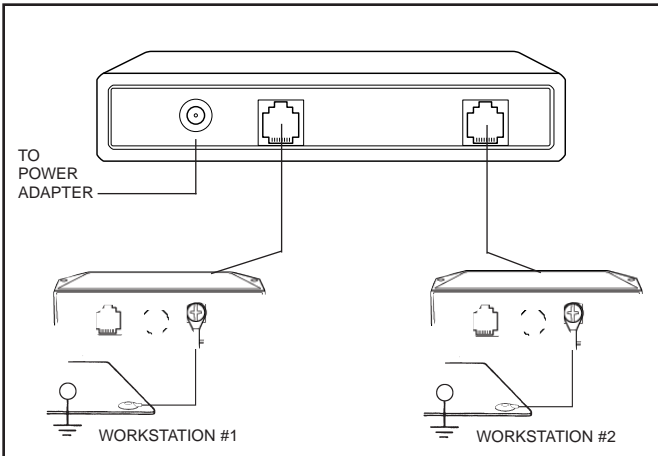

Figure 4. Wiring connection instructions for the 19230 monitor control unit.
Figure 4 shows the monitor control unit as it is viewed from the rear, with the work surface wiring in place.
1. Use rear phone jack connections and connect Satellite Remote Units to base unit with phone cable. See Figure 4 for wiring connection instructions.
4. Confirm that worksurface surface resistance is 5×10^8 ohms or less. Connect the stripped end of the worksurface cord included with the unit to the terminal marked "Work Surface" on the back of the unit. Snap the other end to the worksurface grounding point as shown in figures 4 and 5.